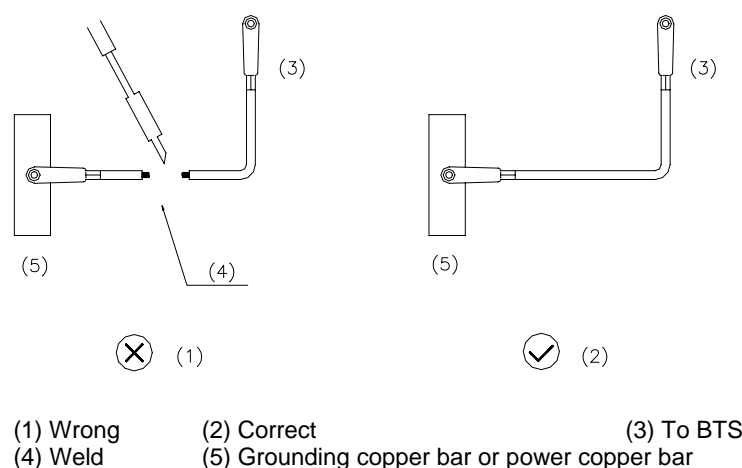

Figure 4-15 Wrong operation versus correct operation
- Make sure the cables are long enough and preserve redundant length. If the cables are not long enough, stop distributing and use new ones. It is prohibited to make tie-in or welding points on the cables, as shown in Figure 4-15.